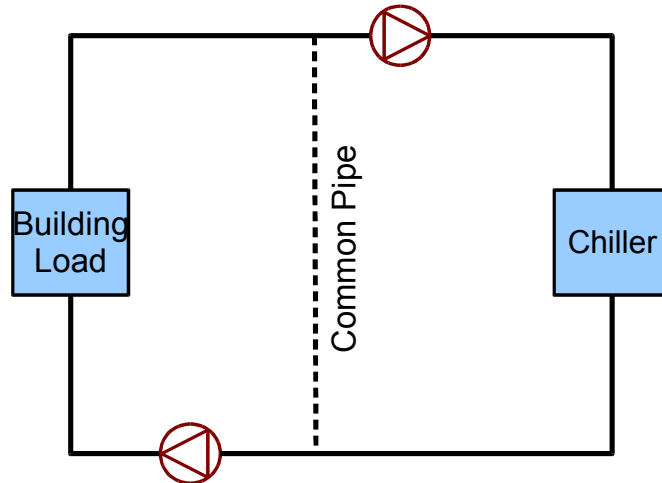

Figure 3 - Simple line diagram for the example system, (recreated from Reed and Davis 2007)
1. **Obtain a simple engineering line diagram for the system.** This system is a simple cooling system that employs a primary/secondary pumping setup with a one-way common pipe to circulate chilled water through a building. Figure 3 shows the simple line diagram for the system.